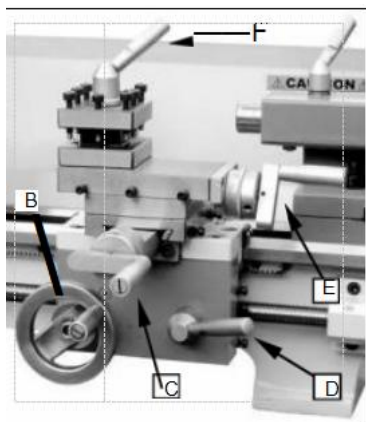

Fig. 11
5. Longitudinal Traverse Handwheel (B, Fig. 11)
6. Cross Traverse Lever (C, Fig. 11)
7 . Half Nut Engage Lever (D, Fig. 11)
8 . Compound Rest Traverse Lever (E, Fig. 11)
9 . Tool Post Clamping Lever (F, Fig. 11)